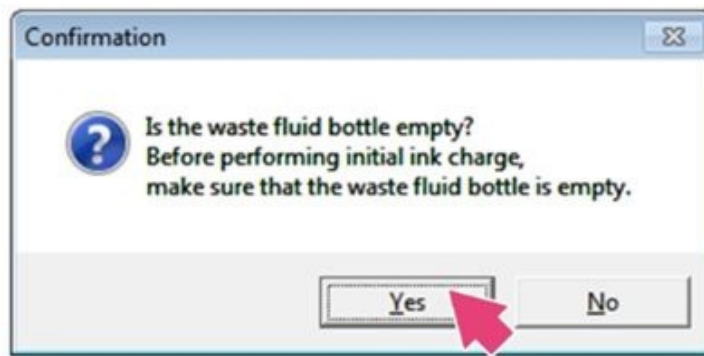

Figure 54
41. To avoid waste tank overflow, the software will prompt you to confirm that the waste ink tank has been emptied. If so, select Yes. See Figure 54.